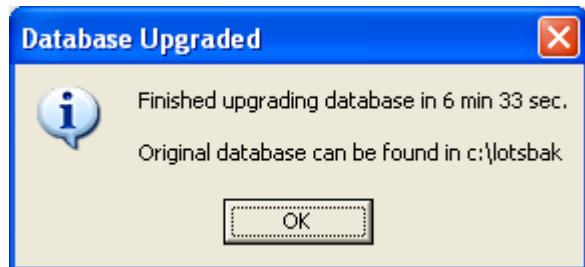

Figure 427
13. When the Database Upgrade is complete, you will receive a confirmation message (see Figure 427). Select 'OK' to proceed.